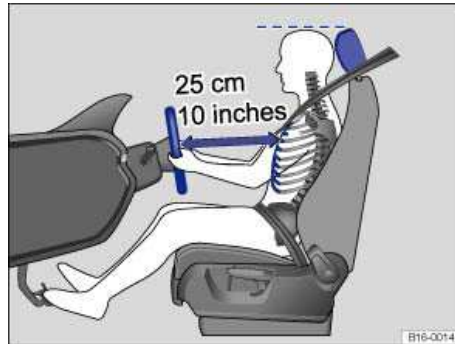
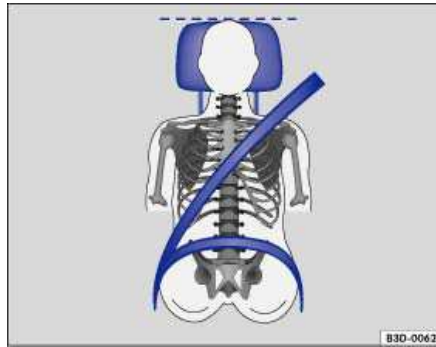

Fig. 39 The driver should never sit closer than 10 inches (25 cm) of the steering wheel.
Fig. 40 Proper safety belt positioning and head restraint adjustment.
- Adjust head restraints so that the upper edge of the head restraint is at least at eye level or higher. Position the back of your head as close as possible to the head restraint ⇒ fig. 39 and ⇒ fig. 40.
- Adjust the steering wheel so that there are at least 10 inches (25 cm) between the steering wheel and your breast bone ⇒ fig. 39. When adjusting the proper distance to the steering wheel, grasp the top of the steering wheel with your elbows slightly bent.